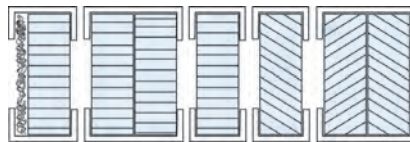

Figure 81: From left to right, Honeycomb with dust filter, cross cell, single cell straight, single cell slant 45 degrees, double slant to prevent eavesdropping
- 81** **To prevent from dust**, a dust filter can be integrated in the ventilation panel. The dust filter can also be mounted to the outside of the enclosure. (Fig. 81)